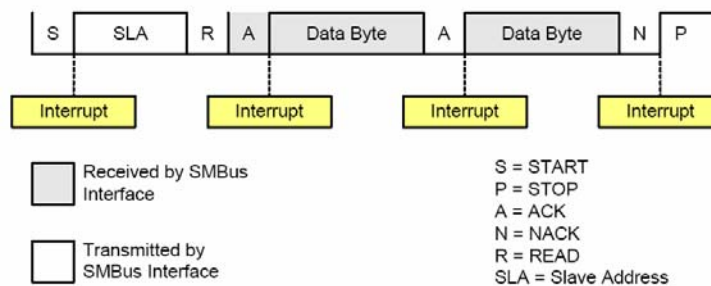

Figure 6 - Master Receiver Sequence
The master device must parse out the initial message structure for the message size (X), read X bytes from the slave, NACK the final byte then send a stop. A master-receiver sequence is shown in Figure 6. Slave